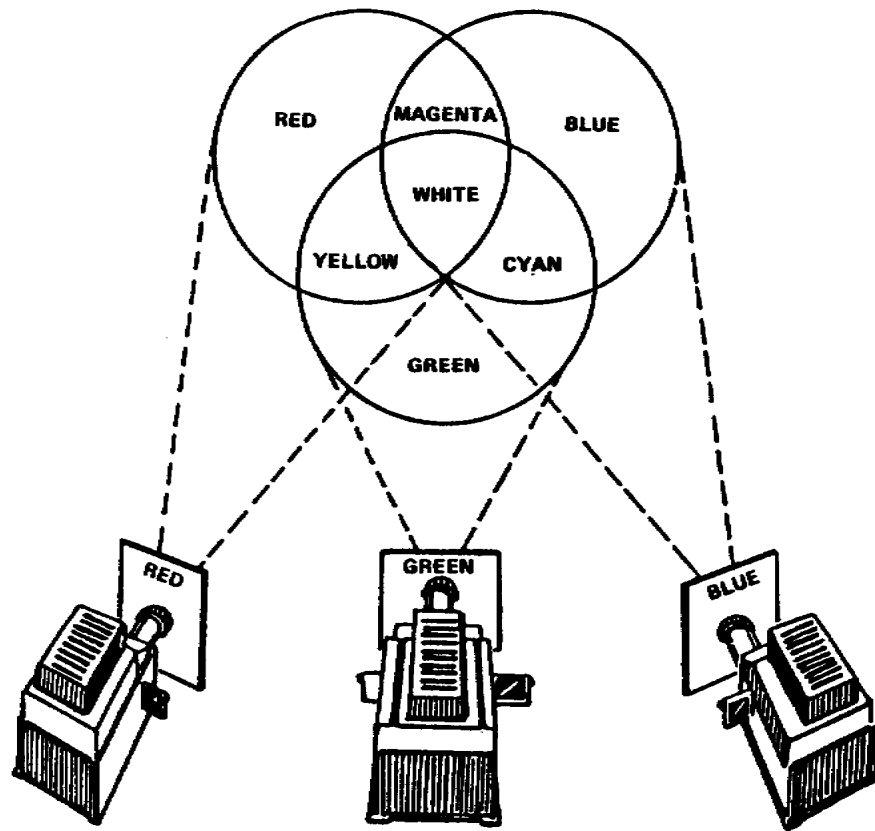

Figure 2-1. Additive color system
a. When equal parts of blue, green, and red light are projected from separate projectors and are partially superimposed on a screen, you see in the area of overlap of all three colors, white, as shown in Figure 2-1.